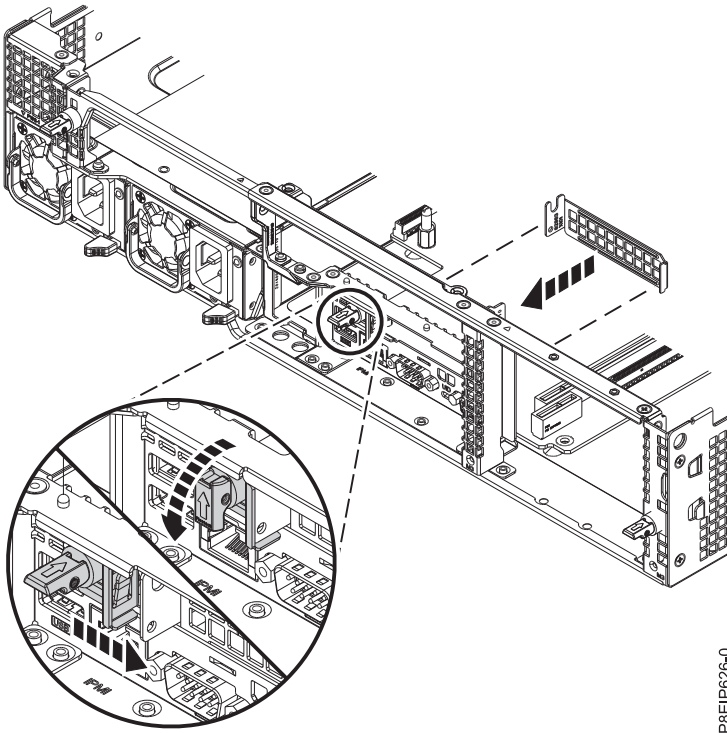

Figure 54. Sliding the tail-stock retainer to the closed position
- d. Close the retaining door by sliding it against the tail stock as shown in Figure 54 on page 44, then reset the retaining pin.